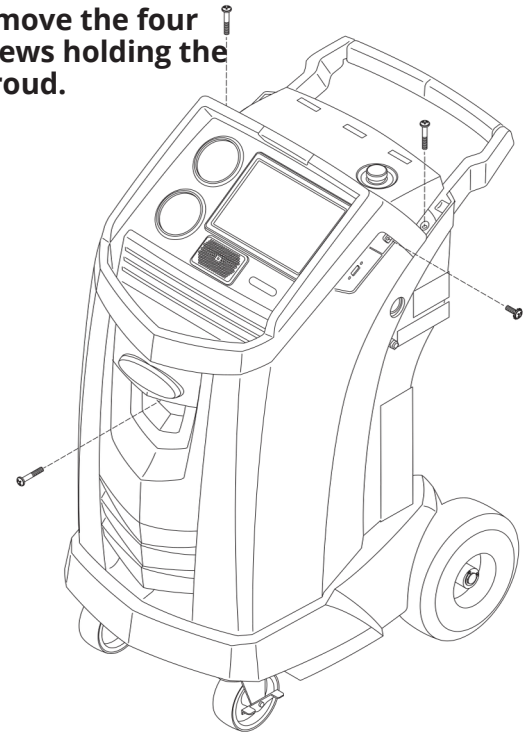

Figure 6
2. Remove the oil bottle. Remove the four screws holding the shroud. See Figure 6.